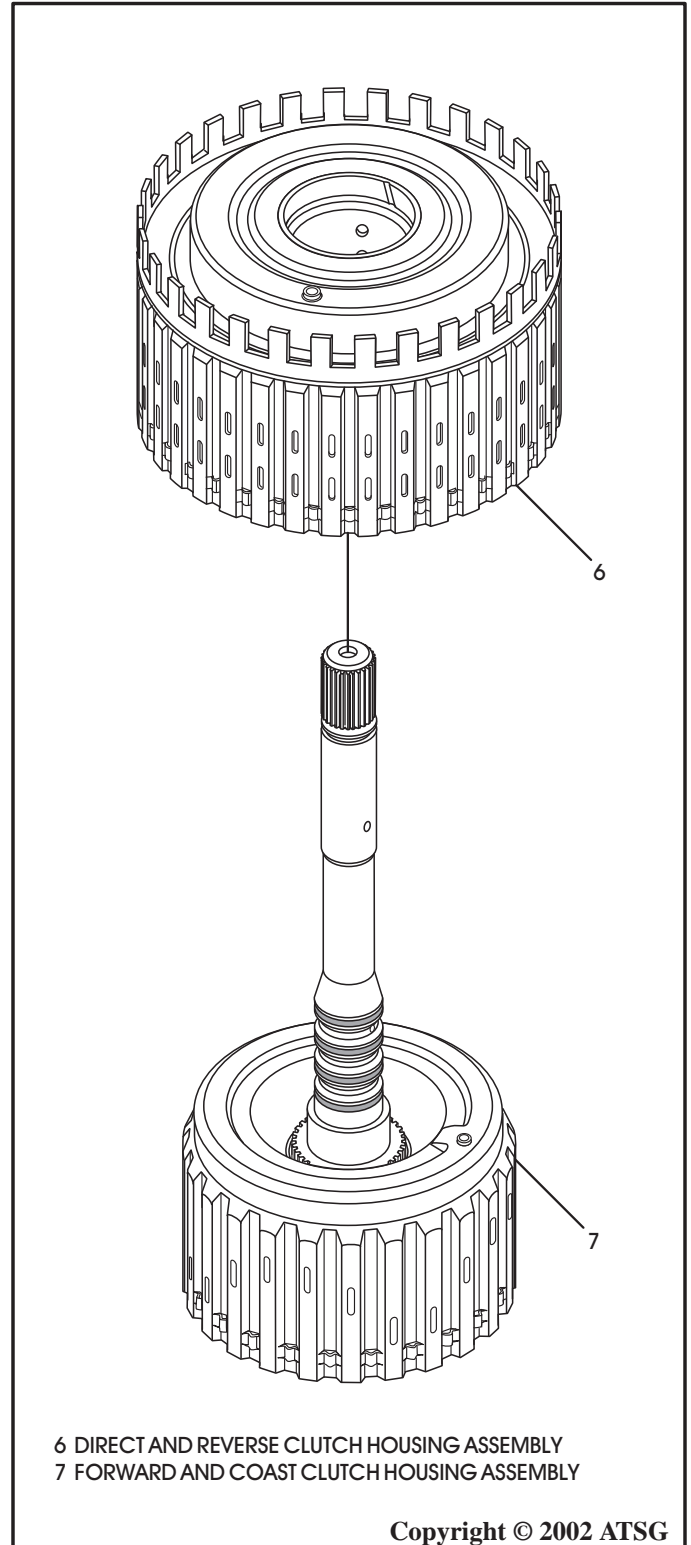

Figure 46
37. Separate the reverse clutch housing from the forward clutch housing, as shown in Figure 46, and set aside for component rebuild process.